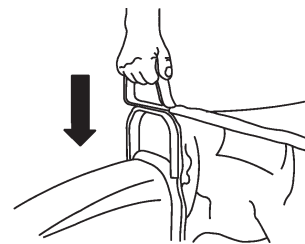

Figure 41
17. Grasp the bag assembly handle and slide it over the flange of the grass chute (Fig. 41). Push downward on the bag assembly handle until it seats into position.